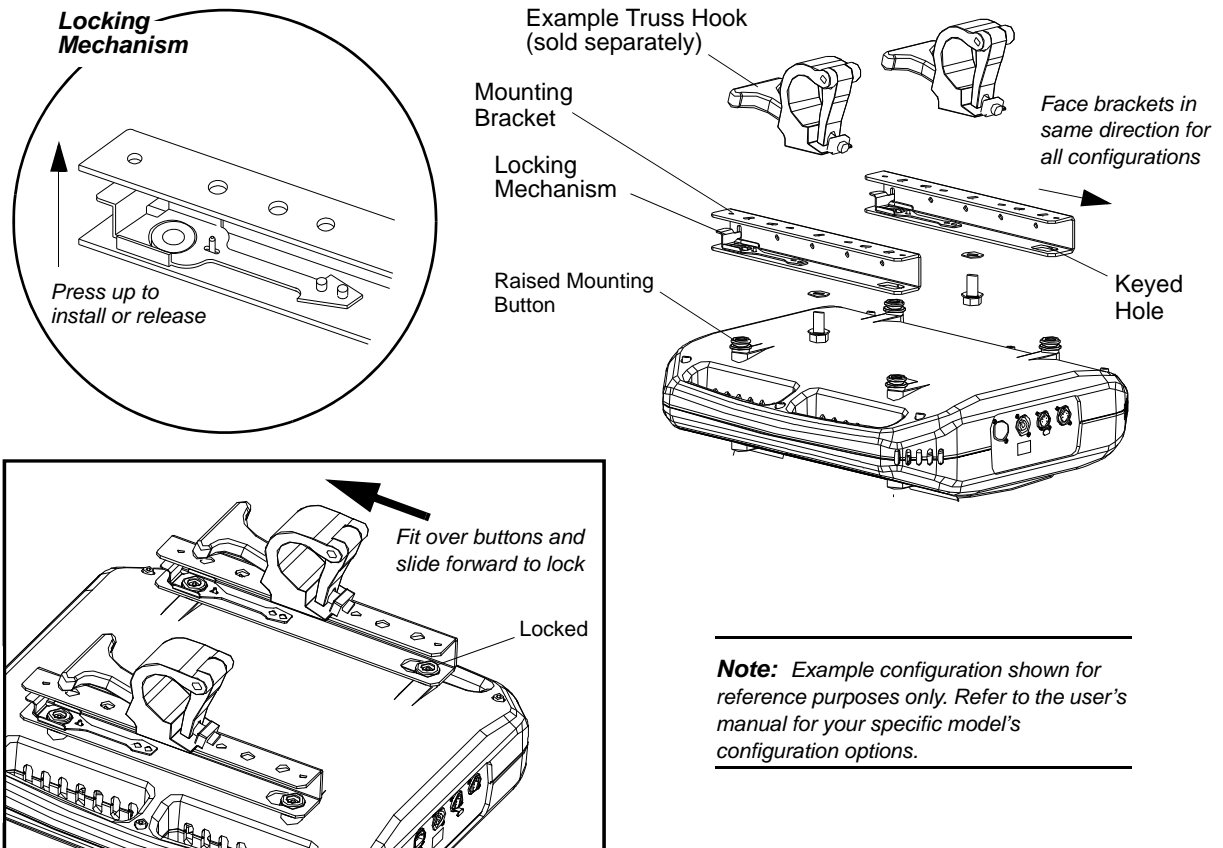

Figure 5: Installing Brackets on Luminaire Enclosure
Step 2. Determine required configuration of bracket installation. In the example below, brackets may be installed in either orientation as shown in **Figure 4**, **but both must face the same direction**. **Figure 5** shows bracket installation details.
Step 3. While pulling up on locking mechanism release, fit keyed holes onto raised mounting buttons at bottom of enclosure. Slide forward and release locking mechanism to lock in place. Ensure brackets are locked securely. (Always face brackets in same direction as shown in the example in **Figure 5**.)